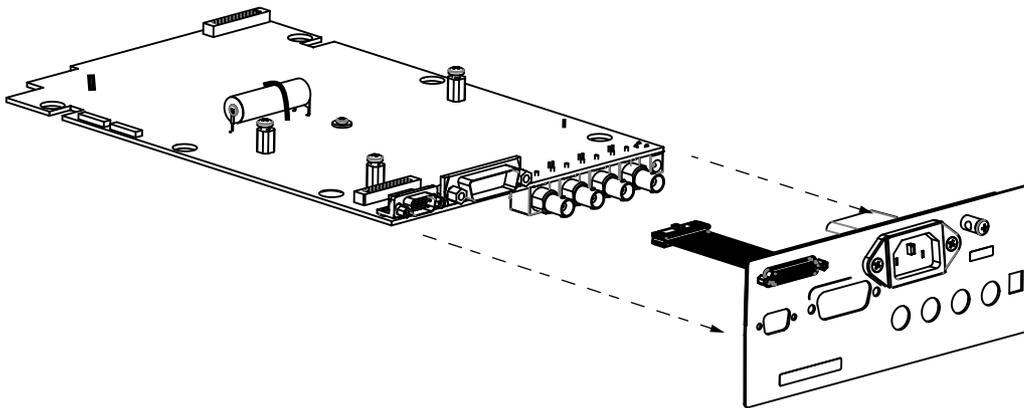

Figure 7-11. Remove Rear Panel
5. Remove the rear panel as shown in Figure 7-11.